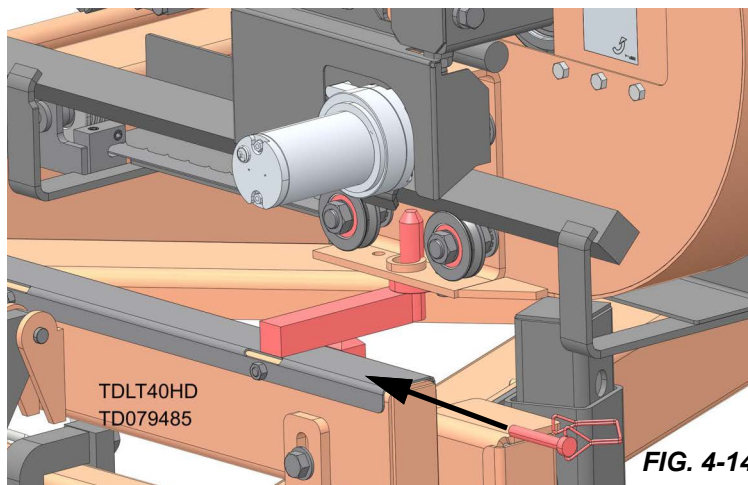

FIG. 4-14
10. Lower the saw head until it is seated firmly over the rest pin (shown in red on FIG.4-14).